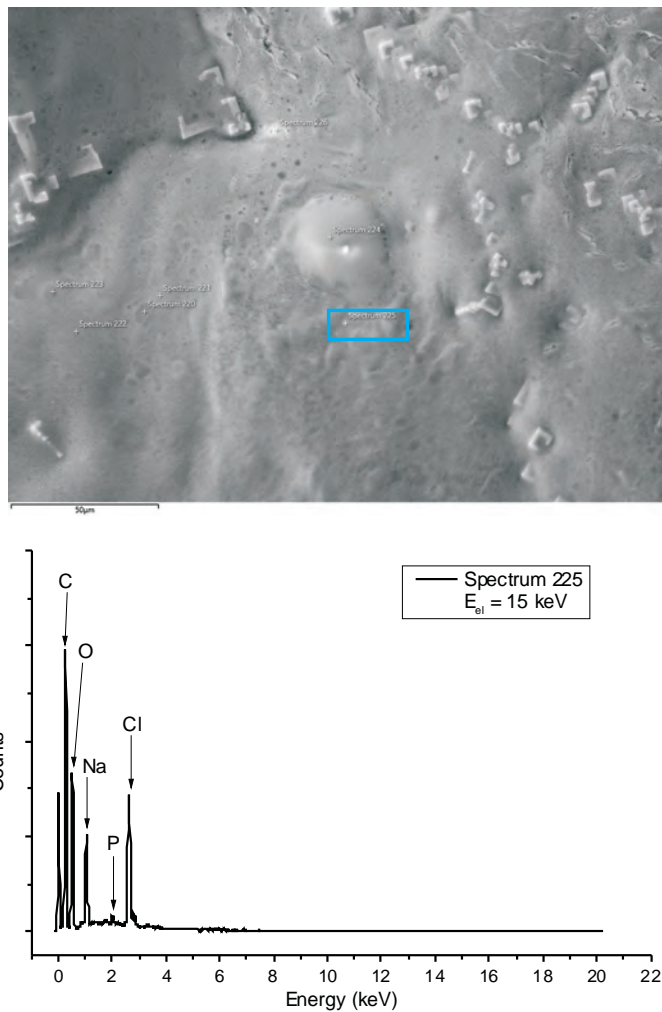

Figure 6: Top: SEM image of dried vaccine including contamination in the center. Bottom: EDX point spectrum of dried vaccine (site 225), marked by a blue frame.
This sample was prepared via a syringe on a gold covered microscope slide as described in section 2. The EDX-spectrum shown in Fig.6 is typical for the dried Cormirnaty-”vaccine”, it consists mainly of Na und Cl (likely NaCl), phosphorus (P), which may stem from some of the lipids, and organic ingredients.